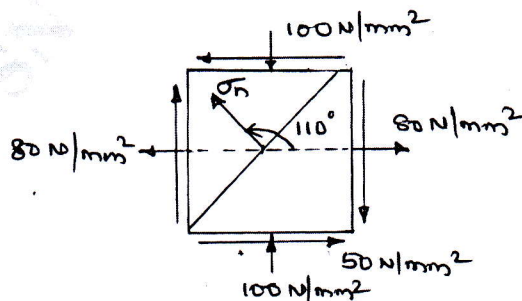

Fig.Q3(b)
- b. An element with the stresses acting on it as shown in Fig.Q3(b). Determine :